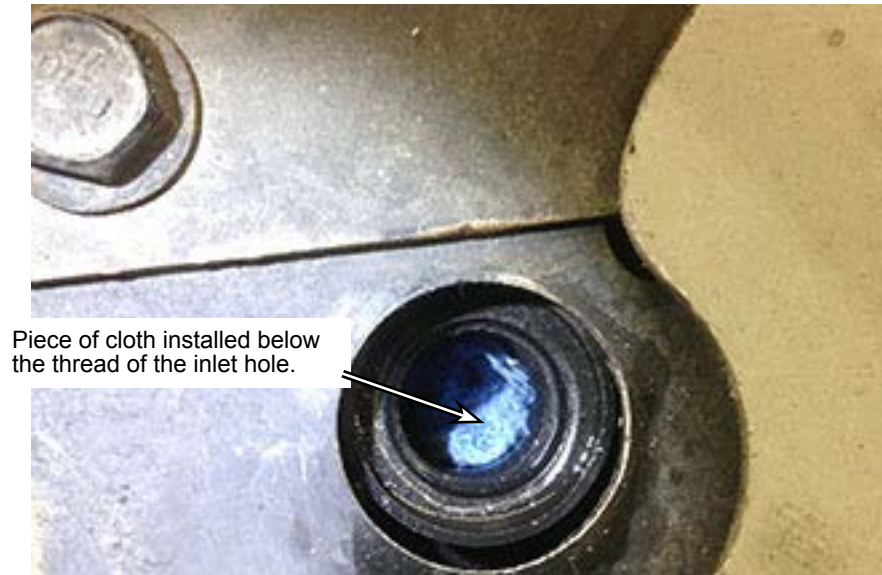

Figure 6 - Piece of Cloth Installed in Inlet Hole.
- 1.13. Disconnect the supply hose from the adaptor located on the left collector of the radiator and remove the adaptor. See Figure 6.
- 1.14. Install a small piece of cloth in the inlet hole of the radiator collector. The piece of cloth should not obstruct the threaded portion of the hole. See Figure 6.